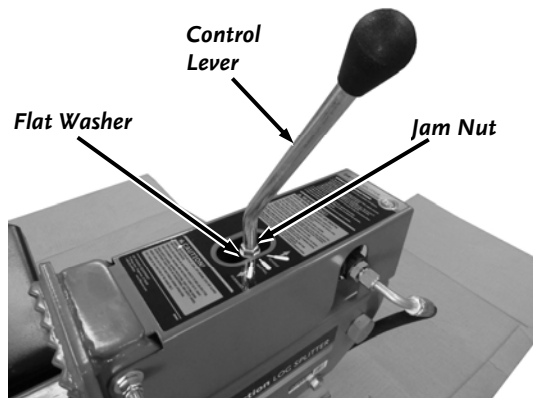

Figure 12
16. Remove the Nut and Flat Washer from the Control Lever threads and reinstall the Nut all the way onto the threads (**Figure 12**).